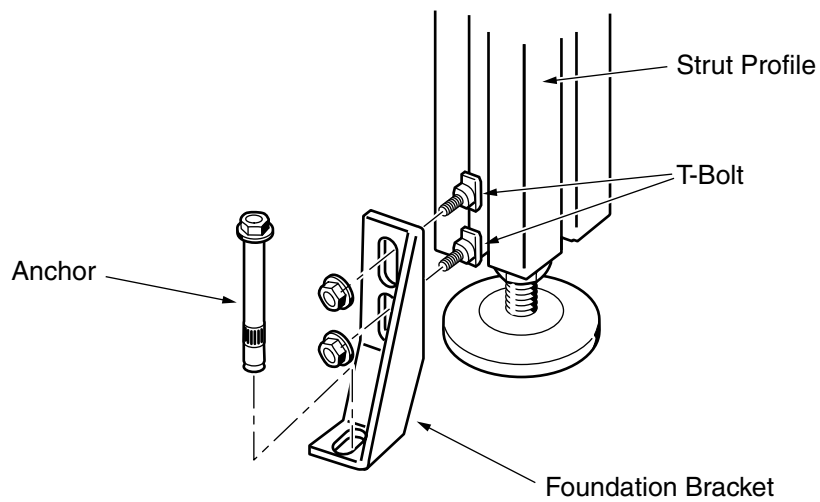

Fig. 6
1. Mount the foundation brackets to the VT2 strut profiles using the T-bolts provided (Fig. 6).